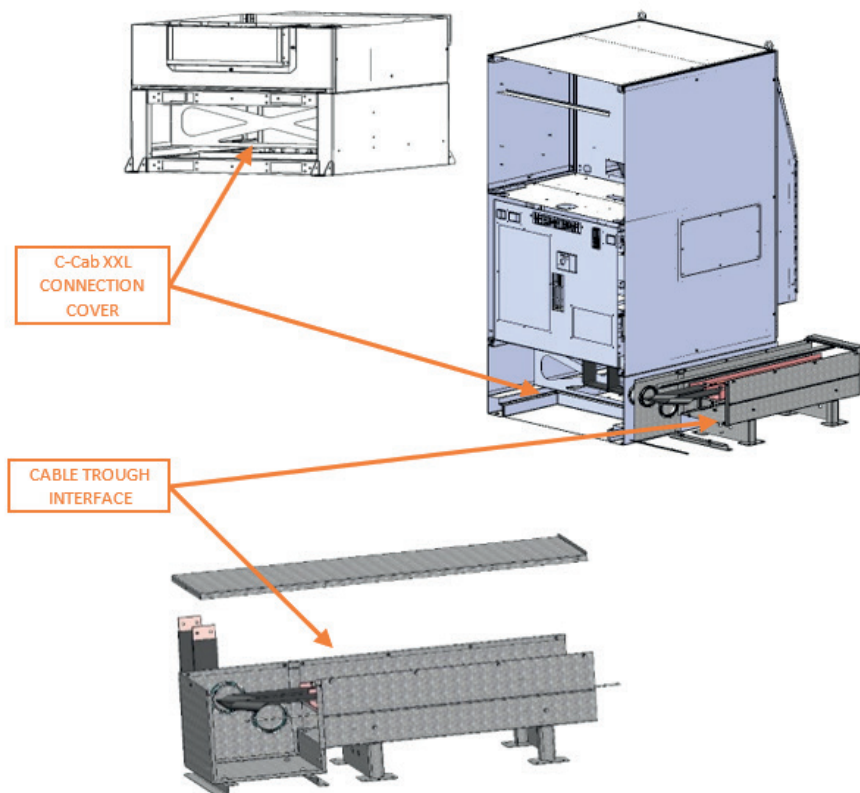

Figure 64. Installation of Cable Trough C-Cab XXL Interface
- a. Remove the front cover of the C-Cab XXL as in Figure 64.